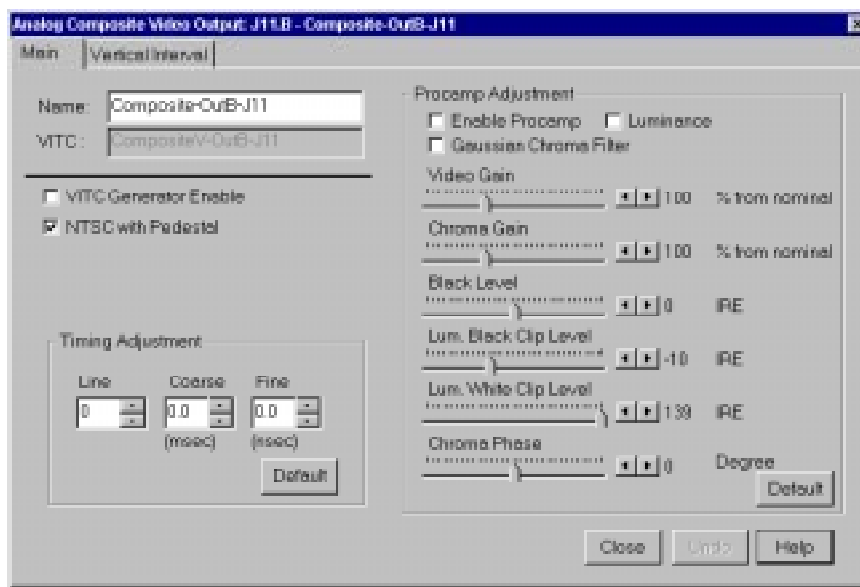

Figure 22. Analog Composite Video Output dialog box
1. Select **Video Output** from the configuration tree and click or double-click an analog composite output from the list, such as *Composite-OutA-J11*. The Analog Composite Video Output dialog box appears (see Figure 22).